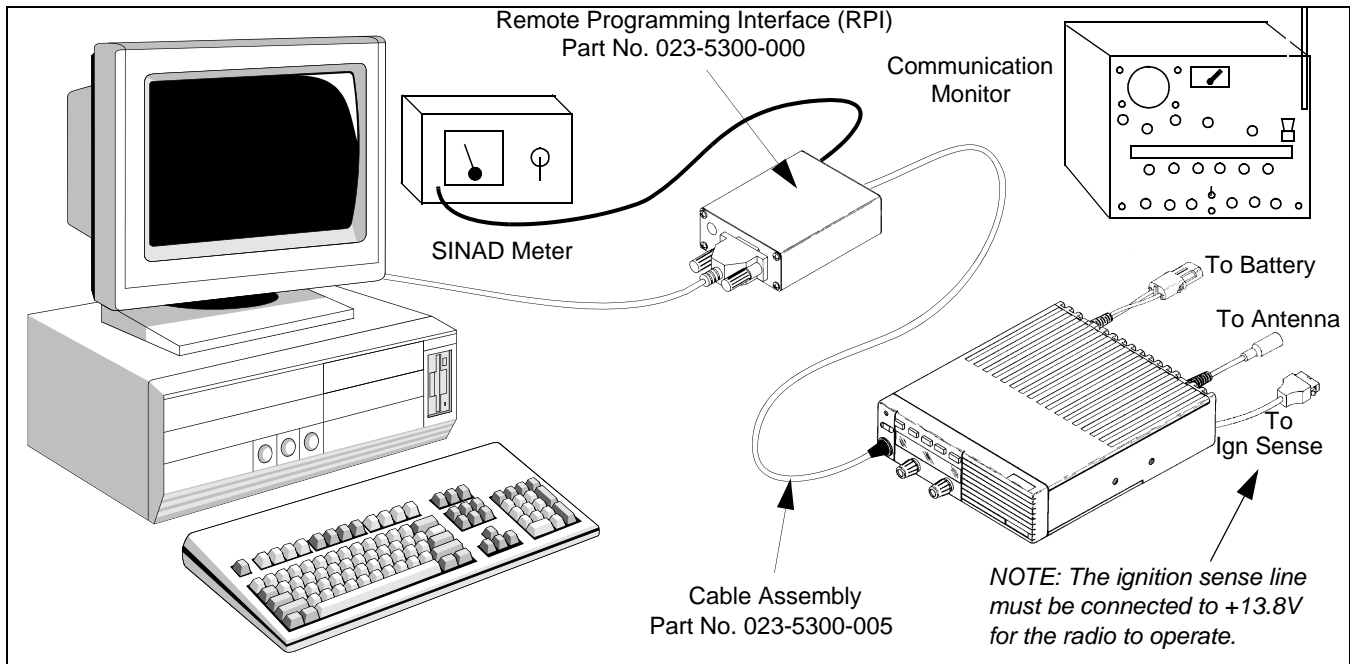

Figure 6-1 Alignment Setup
All adjustments are set digitally using the computer. Therefore, there is no need to disassemble the transceiver to access adjustment points. In addition, audio test signals are generated internally, so an audio generator is not required. The required test equipment is shown in Figure 6-1.
2. Connect the RPI to the microphone jack of the transceiver using programming cable, Part No. 023-5300-005 (see Figure 6-1).